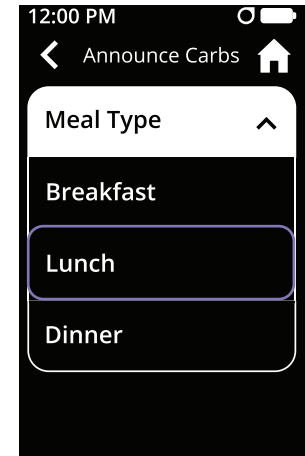

Figure 98
- Choose Meal Type. You can select Breakfast, Lunch, or Dinner (see Figure 98).